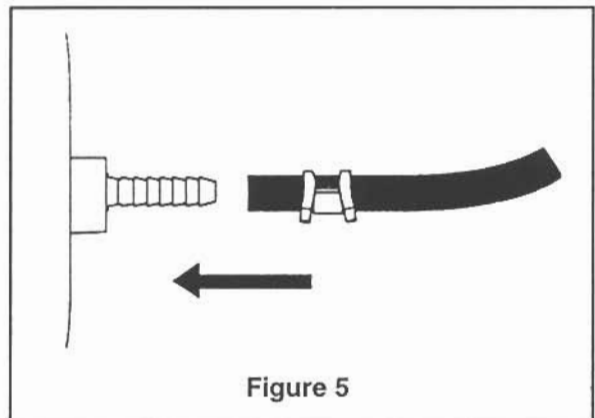

Figure 5
- F. With pliers, slide the hose clamp forward until it fully covers the barbed section (fig.5).
- H. Push the air line onto the stem, covering all the barbs (fig.5).